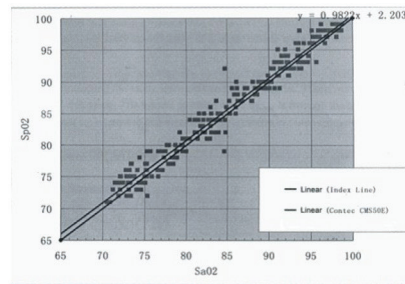
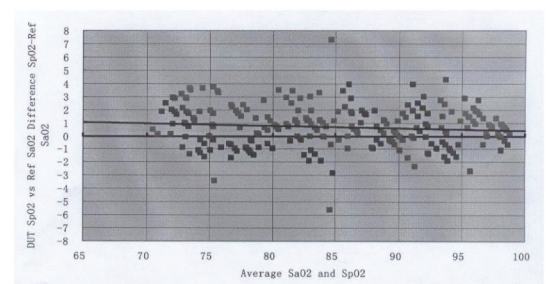

Figure 2 SpO2 regression plot
Figure 3 Bland-Altman plot
- 5) **Measurement Accuracy:** ±2% in stage of 70%-100% SpO2, and meaningless when stage being smaller than 70%. ±2 bpm or ±2% (select larger) for Pulse Rate. Clinical Trial :SpO2 regression plot & Bland-Altman plot, Refer to Figure 2 & Figure 3.